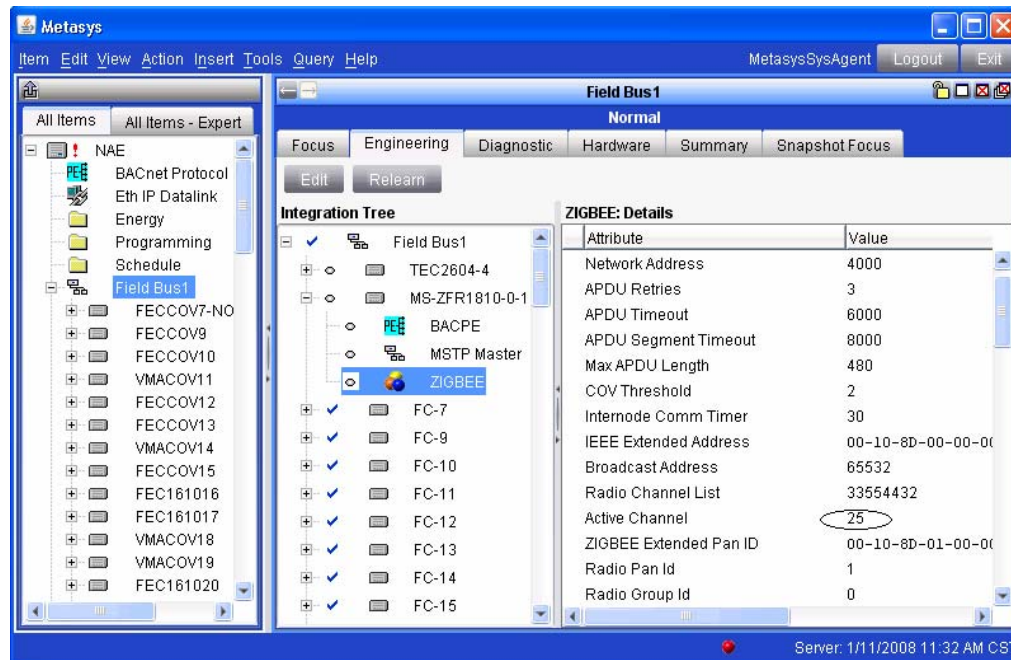

Figure 17: Changing Wireless Active Channel
4. Expand the Field Bus and the MS-ZFR1810-0 Coordinator items as shown in Figure 17. Open the details window for the **ZIGBEE** item.